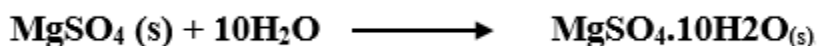

**Figure 1.** Distillation set-up
1. First, prepare the distillation set up given in Figure 1. Take three medium lemons and grate the peels of lemons and measure the mass of the peel. Add the peels to the distilling pot, a 250 mL flat bottom flask (Flask 2), using a wide-mouth funnel and a stirring rod. Add enough water so that the distilling pot is about 2/3 full. Add boiling chips to the round-bottom flask (Flask 1) that is full with water prior to passing steam. Then connect the two flasks with a rubber
3. Collect the condensed liquid a tared erlenmayer flask. In the process, all the hot vapors produced are immediatly channelled into a condenser which cools and condenses the vapors. Therefore the distillate will not be pure. Since water and lemonene are immiscible. (Figure 1.)